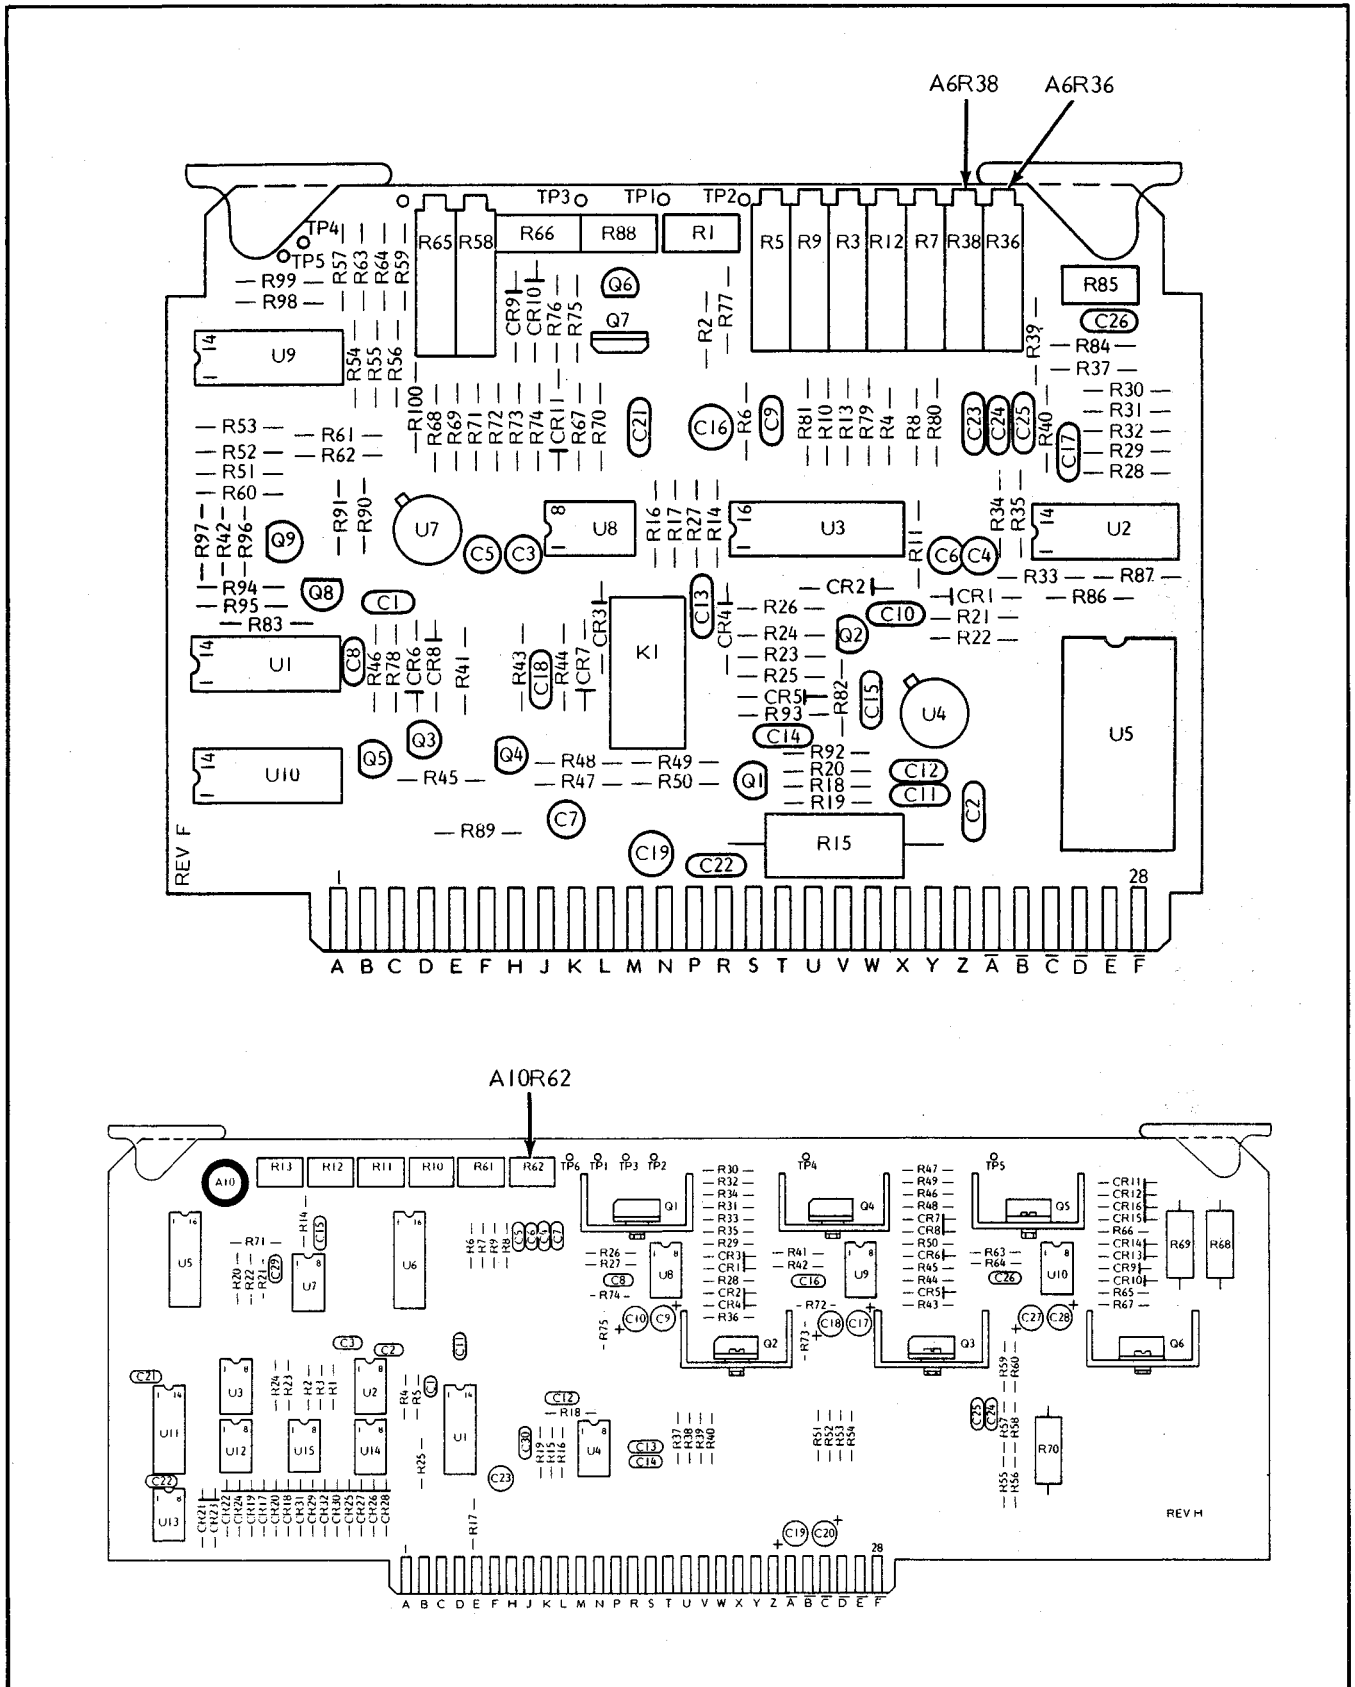

Figure 5-31. Tracking Filter Adjustments
- 1. alternately adjust A6R36 and A6R38 (Figure 5-31) to obtain maximum out-